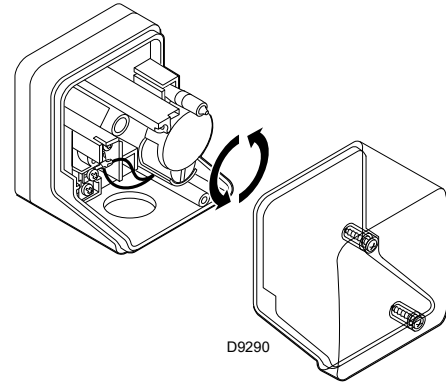

Fig. 31
- Adjust the low gas pressure switch to the start of the scale (Fig. 31 on page 30).
Adjust the minimum gas pressure switch (Fig. 31) after having adjusted the burner, the gas valves and the gas train stabiliser. With the burner operating at maximum output: